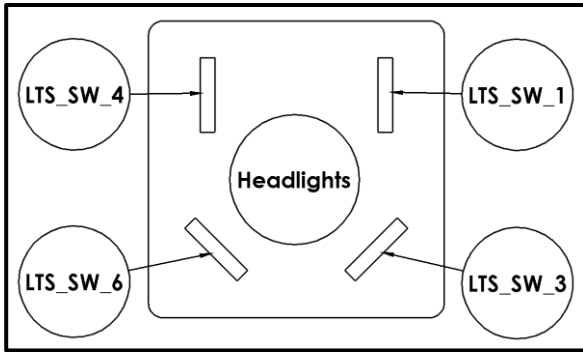
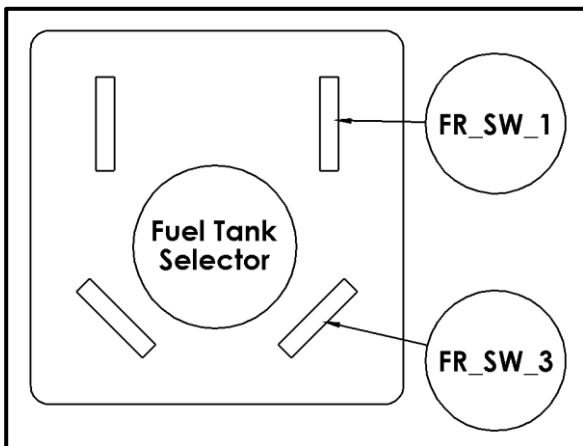

Figure 4 Headlight Toggle Switch Labels
Figure 3 Fuel Tank Selector Switch Labels
5. Reconnect the spade terminals as shown for the toggle switch of interest. [Figure 4, Figure 3]